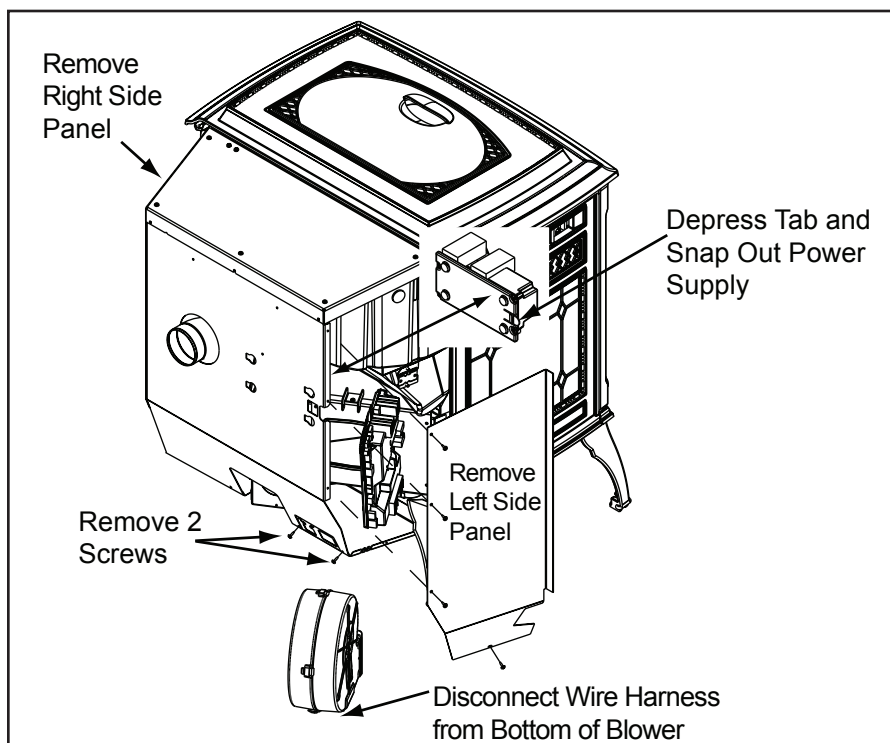

Figure 40.1
2. Remove the left and right side panels by removing the 4 screws using a Phillips head screw driver. **Figure 40.1.**
3. Depress the tab on the left side and snap out the power supply. **Figure 40.1.**
4. Remove the 2 screws at the bottom of the back panel so there will be room to remove the blower. **Figure 40.1**
7. Disconnect the wire harness from the bottom of the blower by depressing the tabs on the sides of the connector and then pulling to remove. **Figure 40.1.**